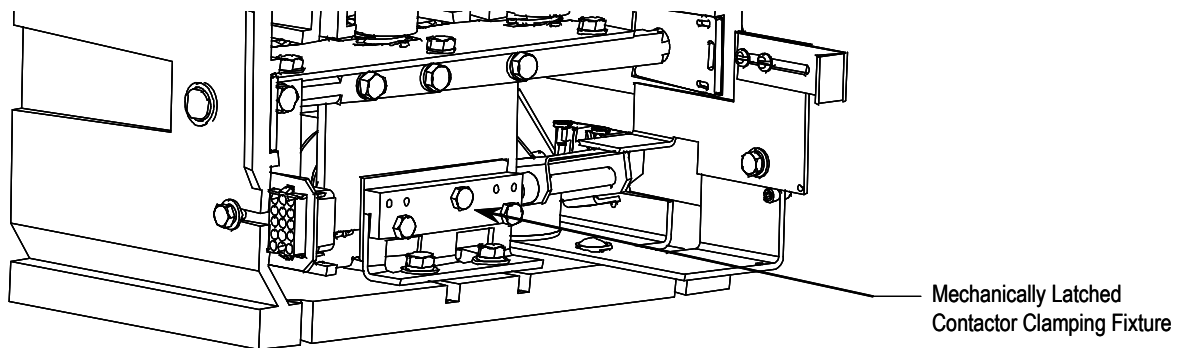

Figure 4.23 – Clamping a Mechanically Latched Contactor Closed
1. The overtravel, contact gap and auxiliary set-up procedures are the same for mechanically latched contactors as they are for electrically held contactors except that instead of energizing the contactor with the “TEST” circuit, the contactor must be held closed mechanically by means of a clamp or special fixture as shown in Figure 4.23. It is important that the contactor is held closed tightly with the armature against the magnet cores when gauging the overtravel, contact gap, and auxiliary positioning. Allen-Bradley part number 80154-149-51 is recommended, however, a C-clamp can be used at the rear of the contactor to pull up the actuator plate (care must be taken not to overtighten the C-clamp and bend the actuator plate).